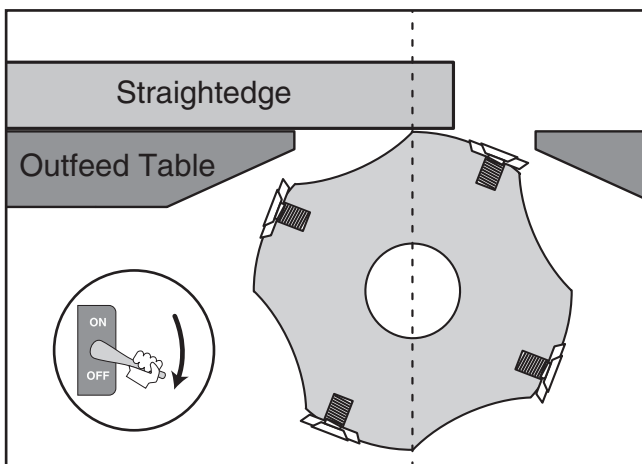

Figure 7. Checking cutterhead parallelism.
14. Using the straightedge and feeler gauge set, inspect the cutterhead parallelism with the outfeed table as shown in **Figure 7**. With the straightedge in position, raise or lower the outfeed table until the cutterhead body (not the carbide insert) just touches the straightedge.